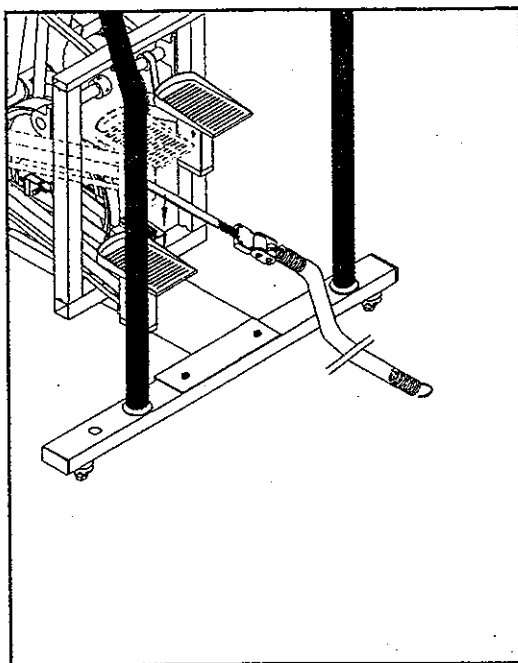

Fig. 9
8. Place the left foot pad at its lowest position, then slide out the left spring (see Fig. 9).